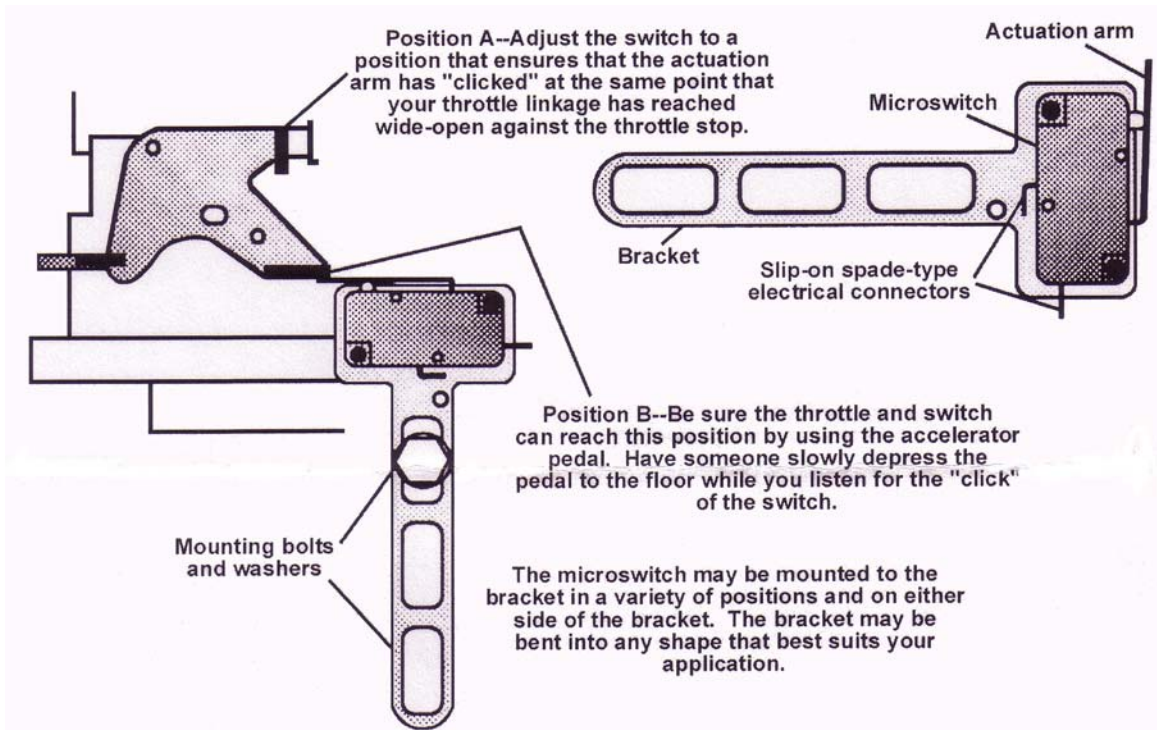

FIG. 6
- b. Adjust the micro-switch to trigger at wide-open throttle by adjusting the micro-switches position to ensure the actuation of the micro-switch “clicks” at the same point the throttle linkage reaches wide-open throttle against the throttle stop (figure 6, position A).
- c. Ensure that the throttle and switch can reach the activation position, as shown in figure 6, position B, by using the accelerator pedal. Have an assistant slowly press the pedal to the floor while you listen for the “Click” of the micro-switch.